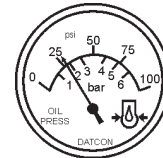

Figure 46. Oil Pressure Gauge
10. The engine oil pressure gauge (Figure 46) will indicate the oil pressure of the engine. Under normal operating conditions the oil pressure is approximately 35 to 65 psi. (241~448 kPa).